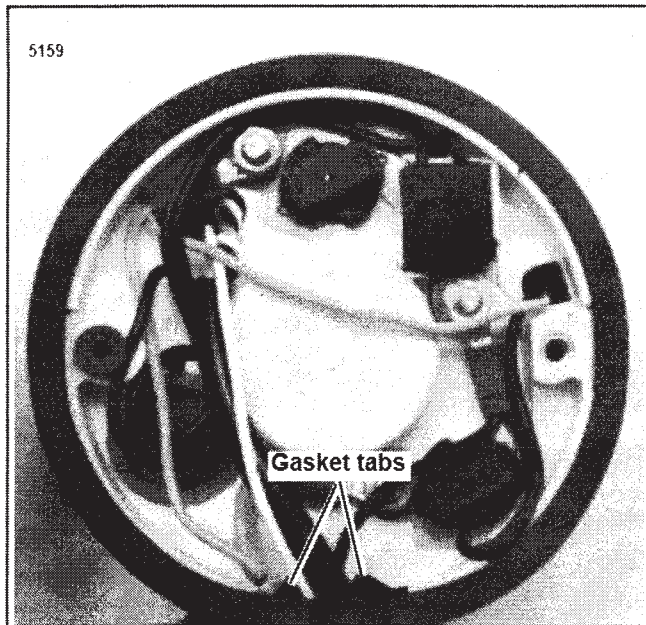

Figure 6. Rear Cover Removed from Speedometer
3. See Figure 6. Place rear gasket in position and align gasket tabs. Work gasket into space between gauge and bracket by pushing gauge against one side of bracket while pushing gasket into position at the opposite side.